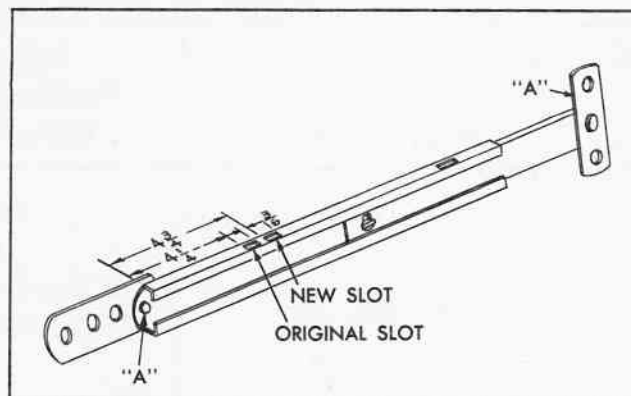

Fig. 8 Location of Slots on First and Second Type Lift Gate Support
3. Check the right lift gate support on all models to determine whether it is the latest type. The latest type support has the horizontal position locking slot located  $4-3/4$ " from the lift gate end of the channel. On the first type support the horizontal position locking slot is located  $4-1/4$ " from lift gate end of channel. See Fig. 8.